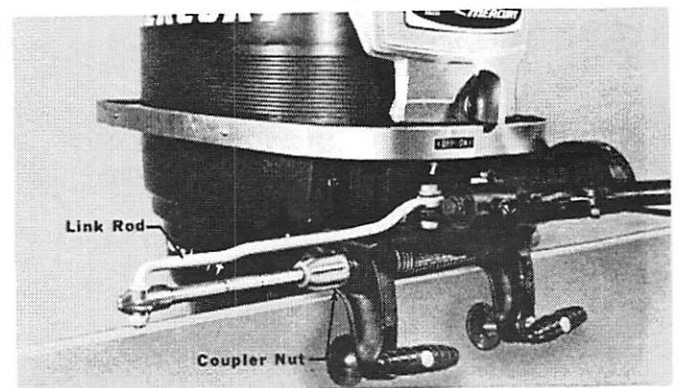

Figure 13. Co-Pilot Kit Installed
2. Place pilot rod into tilt tube. (Figure 13)
3. Fasten end of link rod to handle bracket with 3/8-24 x 1-1/2" long screw and nut which are included in plastic bag. (Figure 13)
4. Tighten large coupler nut on tilt tube, as required, to obtain desired tension. (Figure 13)